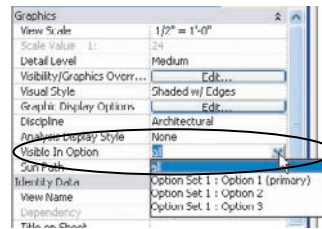

Figure 5.24
**Visible In Option** You find this only when your project has a design option (refer to Figure 5.24). This setting determines whether the annotation for this view should be visible in all views or only when a specific design option is assigned to a view. For example, a section view has associated annotation, and when you create a new section view while editing the main model, it will be assigned to All. If you are editing a specific option when you create the section view, it will be assigned to that option instead.